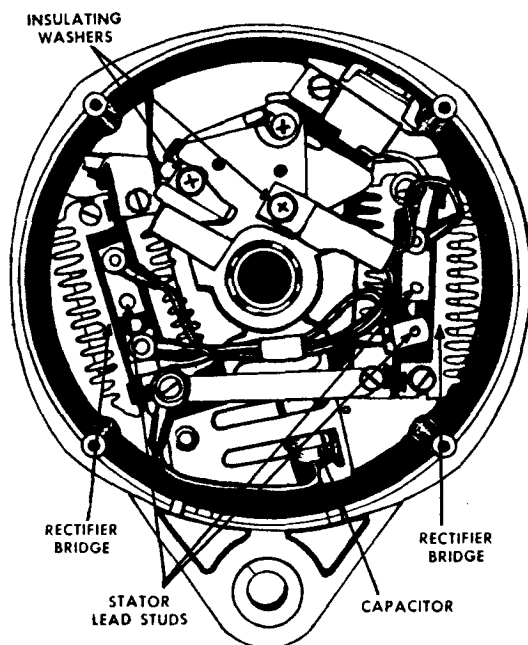

Figure 9—End frame view with stator removed.
5. Separate stator from end frame by removing three stator lead attaching nuts. Figures 9 and 10, and 11 and